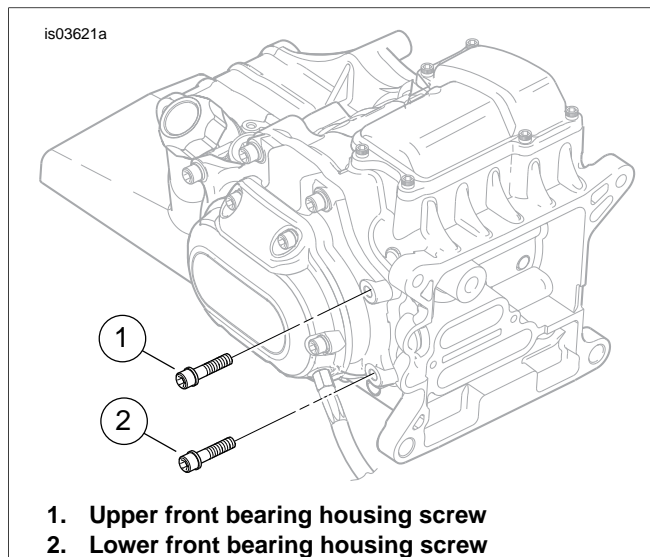

Figure 1. Interface Cover Installation
2. See Figure 1. **Remove** the **upper front** bearing housing screw (1) from the side of the transmission case. **Loosen** the **lower front** bearing housing screw (2).